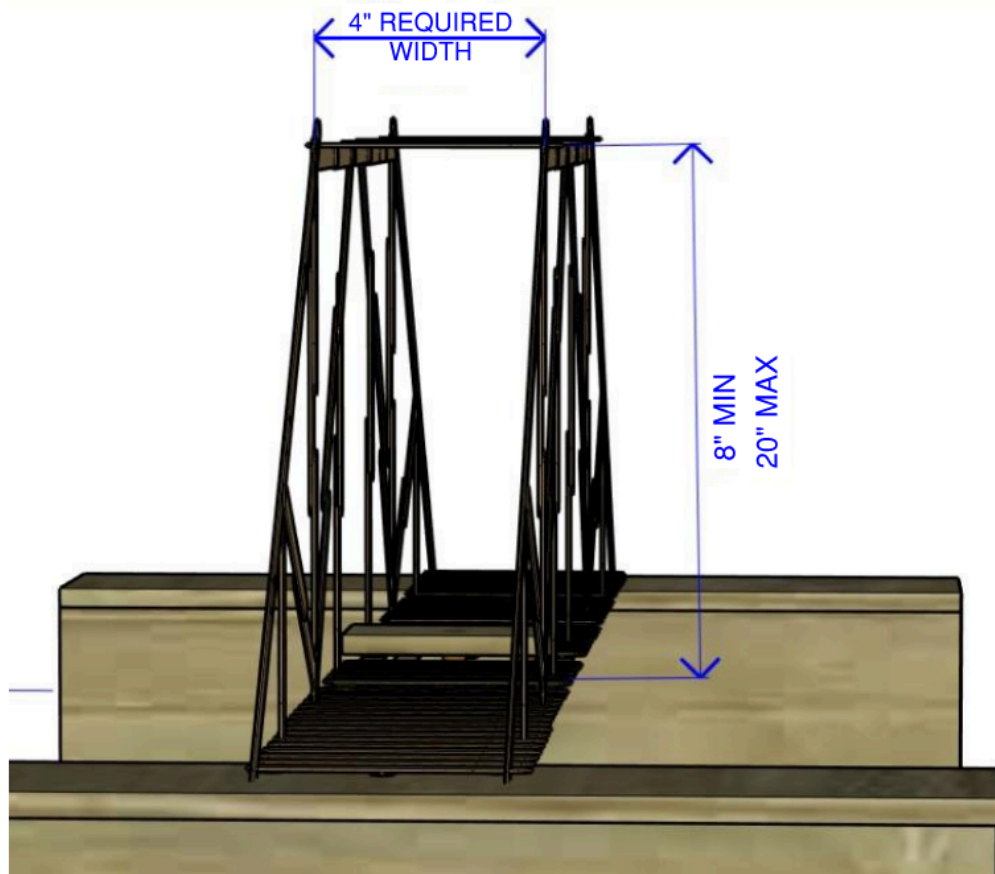

Figure 6 - Roadway Clearance and Height Requirements (not to scale)
- Bridge height shall not exceed 20-inches. Refer to Figure 6 below.
- Bridge roadway must have a minimum 4-inch width and a minimum 8-inch height clearance throughout to accommodate bridge use. Refer to Figure 6 below.